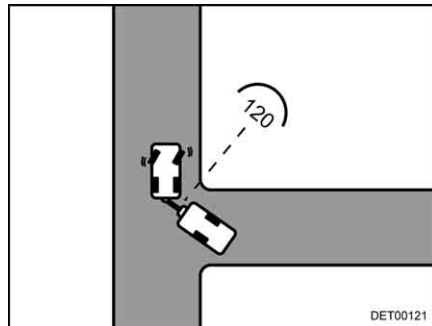

Fig. 17 Approach
- As soon as both vehicles are at an approximate angle of 120° to each other, come to a stop (Fig. 17).